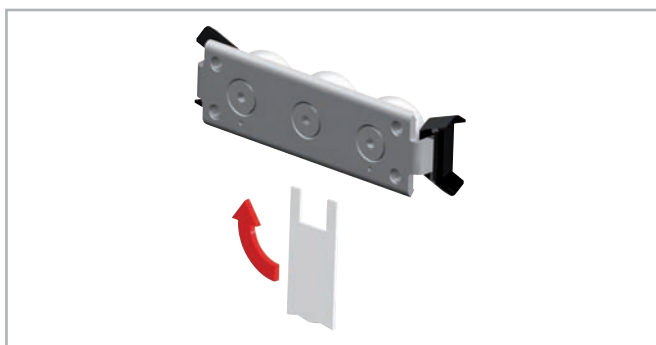

Fig. 25
- The included special flat key is inserted from the side between the rail and the slider and inserted onto the hexagonal or square shaft of the eccentric pin to be adjusted (see fig. 25).